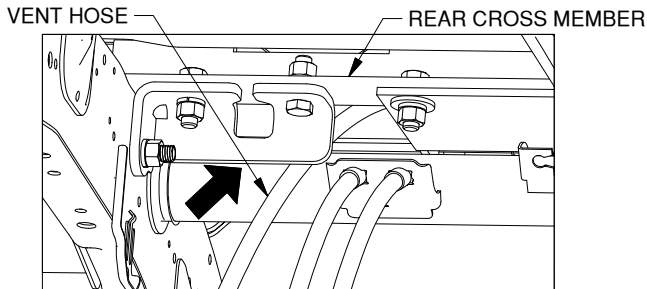

Figure J1: Looking inside driver side frame.
1. **Replace the fuel valve canister and vent hose.** The fuel valve canister (if removed) can now be bolted back into its original position. However, the vent hose will no longer go into the same hole. Route the vent hose around obstacles so that the end is up between the bed cross member and the hitch as far as possible, without kinking the hose. See Figure J1. Secure the hose in this location. This new location will put the vent into the same environment as the old location.